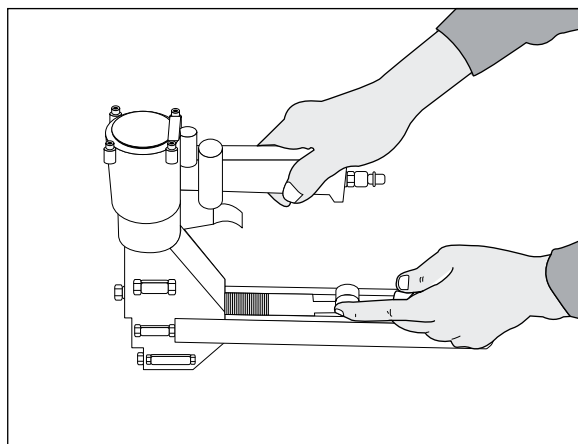

Figure 2
3. Insert 2 sticks of appropriate staples into the magazine. Let the sticks slide forward to the front of the magazine. (See Figure 2)